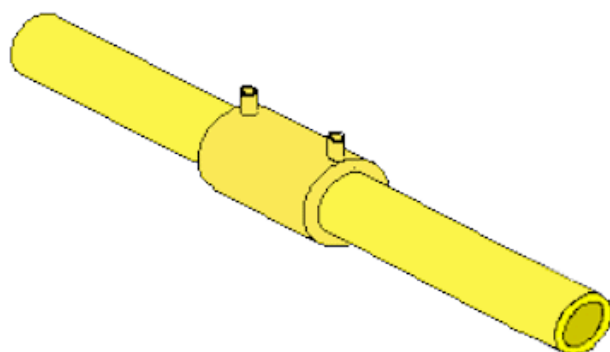

Figure D15 – Completed joint
12. Allow the joint to cool for the given cooling time prior to removing the alignment clamps. Figure D15.